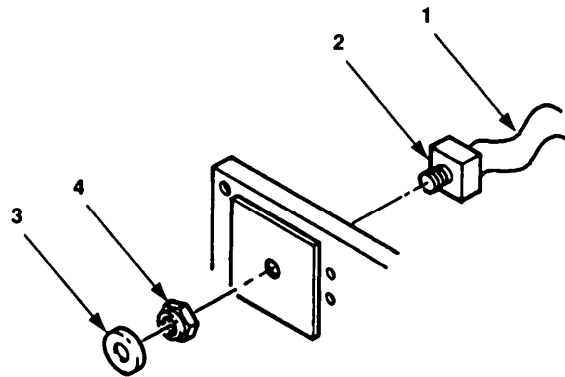

Figure 4-43. Emergency Stop Switch S1 Removal and Installation.
- b. Tag and disconnect wires (figure 4-43, 1) from switch (2).
- c. Unscrew knob (3) from shaft.
- d. Remove nut (4) from switch (2).
- e. Remove switch (2) from control panel.
- a. Install switch (2) into control panel.
- c. Thread knob (3) on shaft.
- d. Connect wires (1) on switch (2) and remove tags.